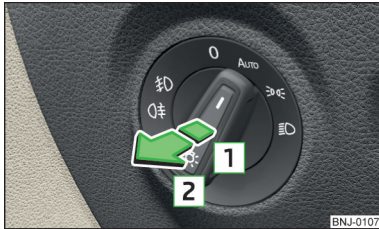

Fig. 57
- ✓ The lights switch is in position **AUTO**, \Rightarrow or \Rightarrow » Fig. 57.